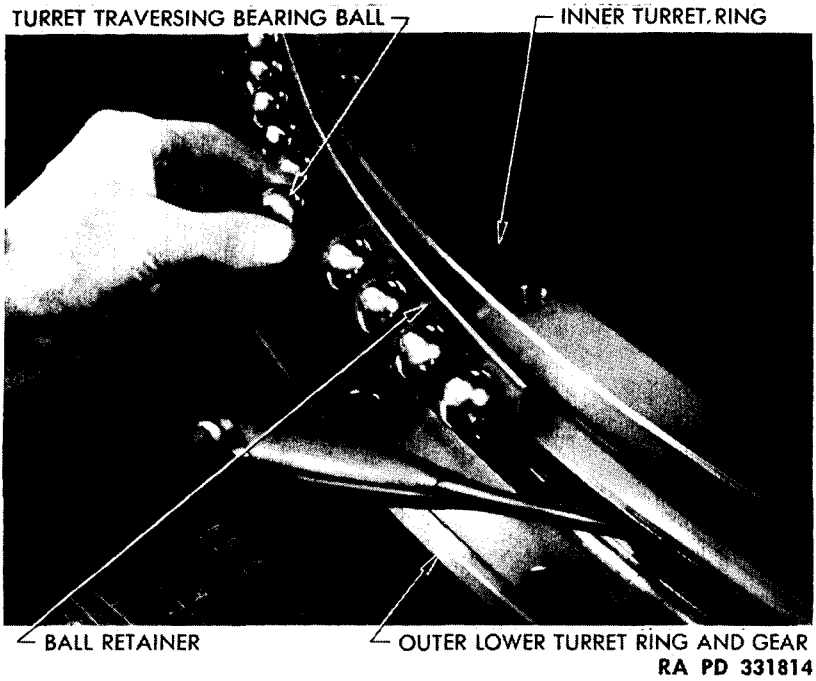

Figure 68. Installing turret balls (M24).
(2) *Install ball bearings and retainers.* Carefully insert a screwdriver between the inner ball bearing ring and the outer lower ring. With the ring raised in this position, install the turret balls in the retainers (fig. 68).